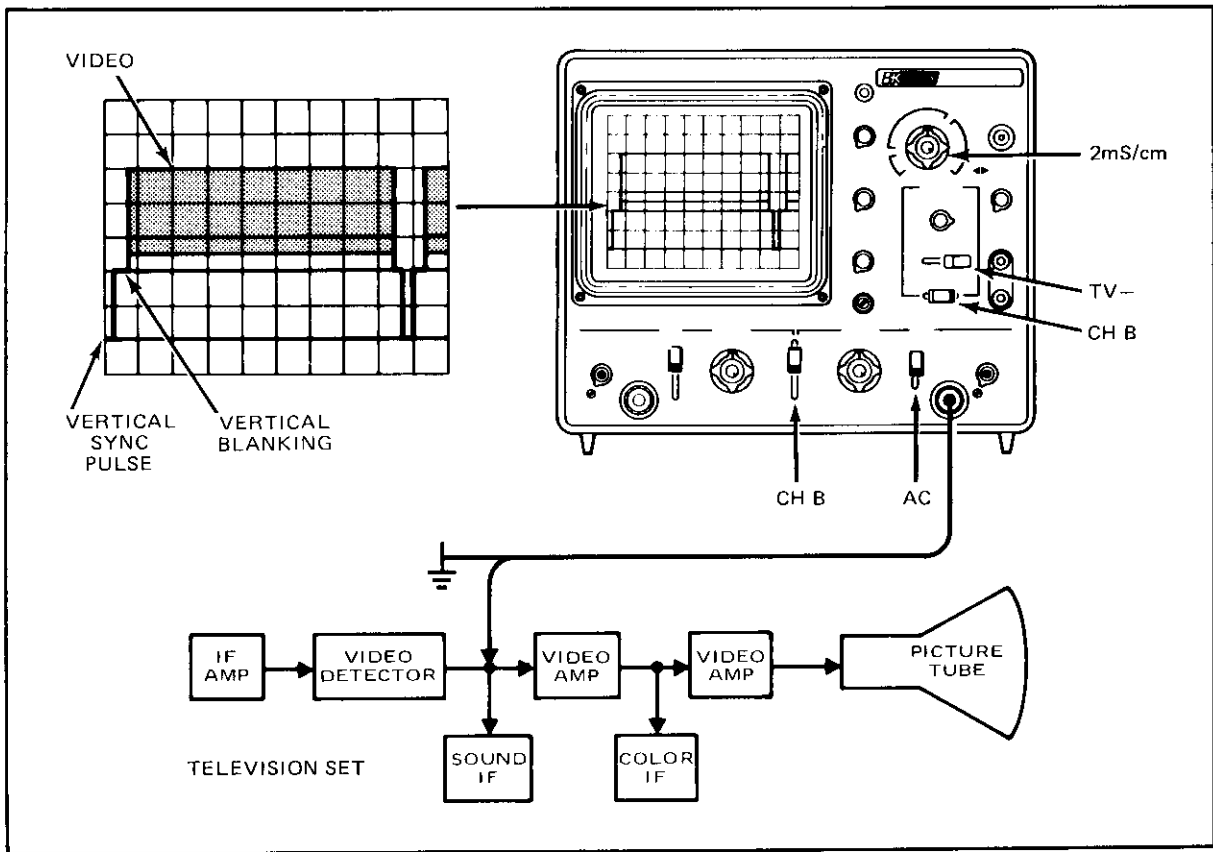
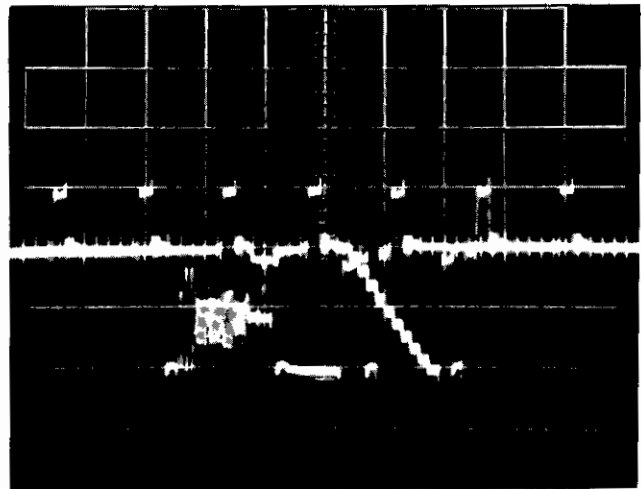

Fig. 22. Set-up for viewing *vertical* fields of composite video signal.
Fig. 27. Oscilloscope presentation of VITS information, *single-trace* operation.
8. The waveform should be similar to that shown in Fig. 27. For the oscilloscope display, each vertical sync pulse starts a new sweep. This causes line 17 and line 279 (multi-burst) to be superimposed, as are lines 18 and 280. The multi-burst signals are identical, which reinforces the trace. However, lines 18 and 280 are not identical and both signals are superimposed over each other.
9. The presentation of the preceding paragraphs (Fig. 27) is the limit of observation possible with a single-trace oscilloscope. With the Model 1472C oscilloscope, however, a single-field VITS presentation can be obtained by placing the MODE switch in the A & B position. This causes the Channel B information to be displayed on alternate sweeps, as are the Field #1 and Field #2 VITS. Because there is no provision for preselecting the Field #1 or Field #2 information, either Field #1 or Field #2 (Fig. 22) will appear. The multi-burst information in the VITS is the most valuable for troubleshooting television receivers and, because it is present on both Field #1 and Field #2 VITS, either can be used for troubleshooting and signal tracing.